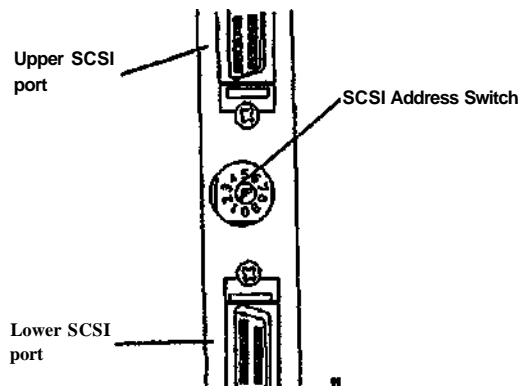

Figure 3 SCSI Address Switch (located at left rear of scanner)
- f. (Figure 3): Rotate the SCSI address Switch to indicate 4. (This switch is located on the back of the printer, between the SCSI ports.) A flashlight may make this switch easier to see and adjust